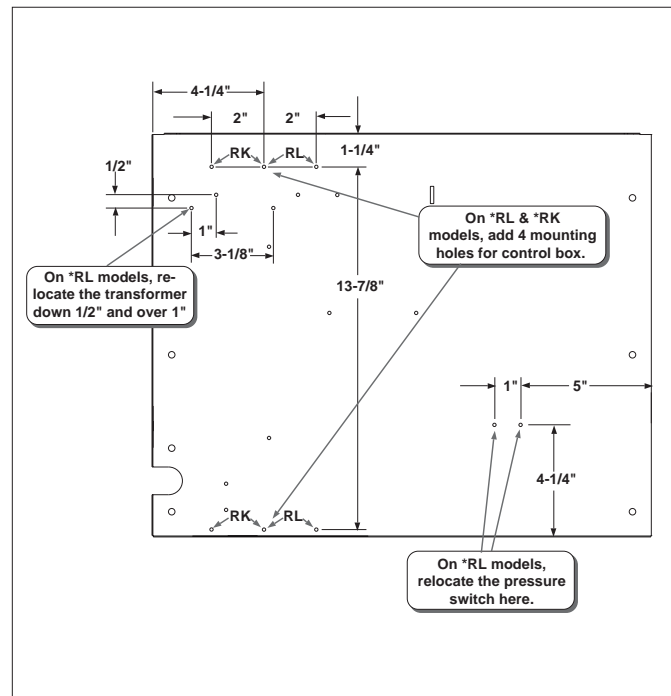

Figure 1. Downflow Blower Access Door
9. Mount the blower control box onto the blower access door. If the unit does not have holes provided, add 1/8" holes per Fig. 1.
9. Mount the blower control box onto the blower access door. If the unit does not have holes provided, add 1/8" holes per Fig. 1. Also, if mounting holes are not
- b. Drill new 1/8" mounting holes per Fig. 1.
- e. Drill new 1/8" mounting holes per Fig. 1.